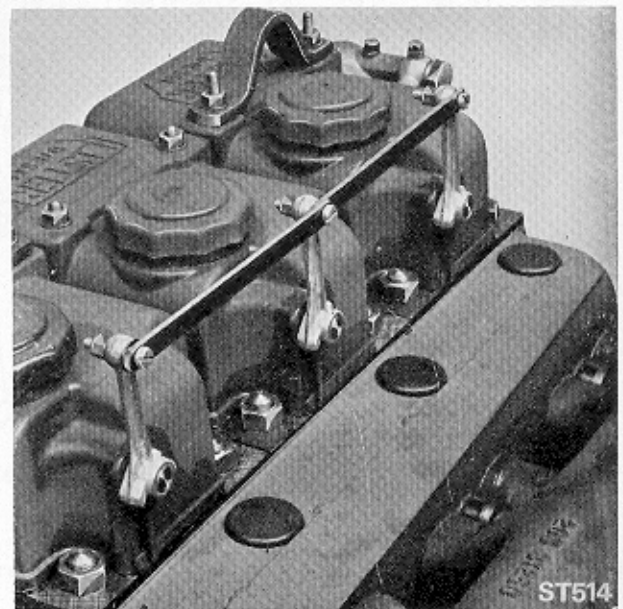

Fig. 93. Coupled Decompressors
**COUPLED DECOMPRESSORS (Fig. 93)**